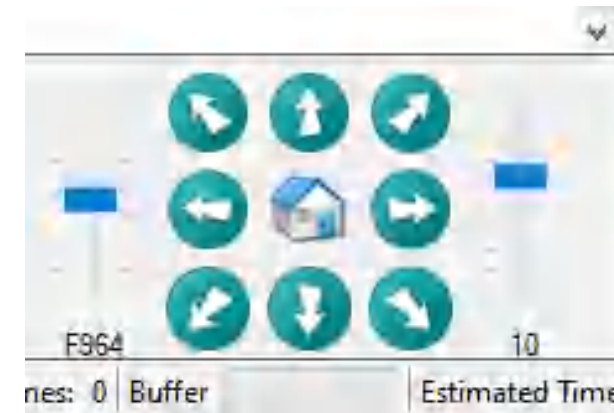

Figure 6.1
Step1: By clicking on the orientation button (Figure 6.1), moving the X/Y axis, the laser device is positioned to the appropriate position of the object to be engraved.